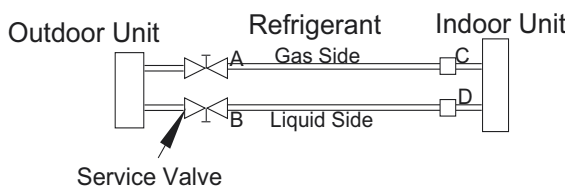

Fig. 9 — Service Valve
1. Completely tighten all the flare nuts and connect the manifold gage charge hose to a charge port of the low side service valve (see Fig. 9).